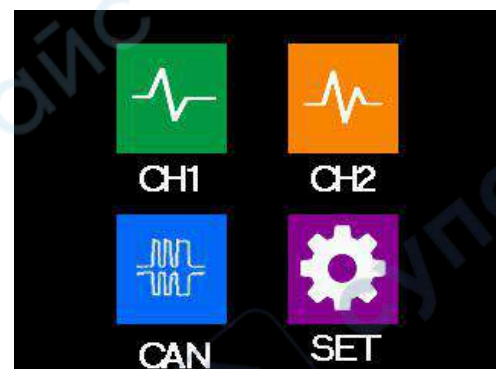

Figure1- 1
- (1) When instrument is turned on, you will enter main operation interface (as shown in Figure1- 1) Press any button (except Power button), CH1 will be selected by default.
- (2) After that, you can switch items with selection by '▲ ▼ ◀ ▶'.
- (3) Then press OK button, you will enter on configuration interface.